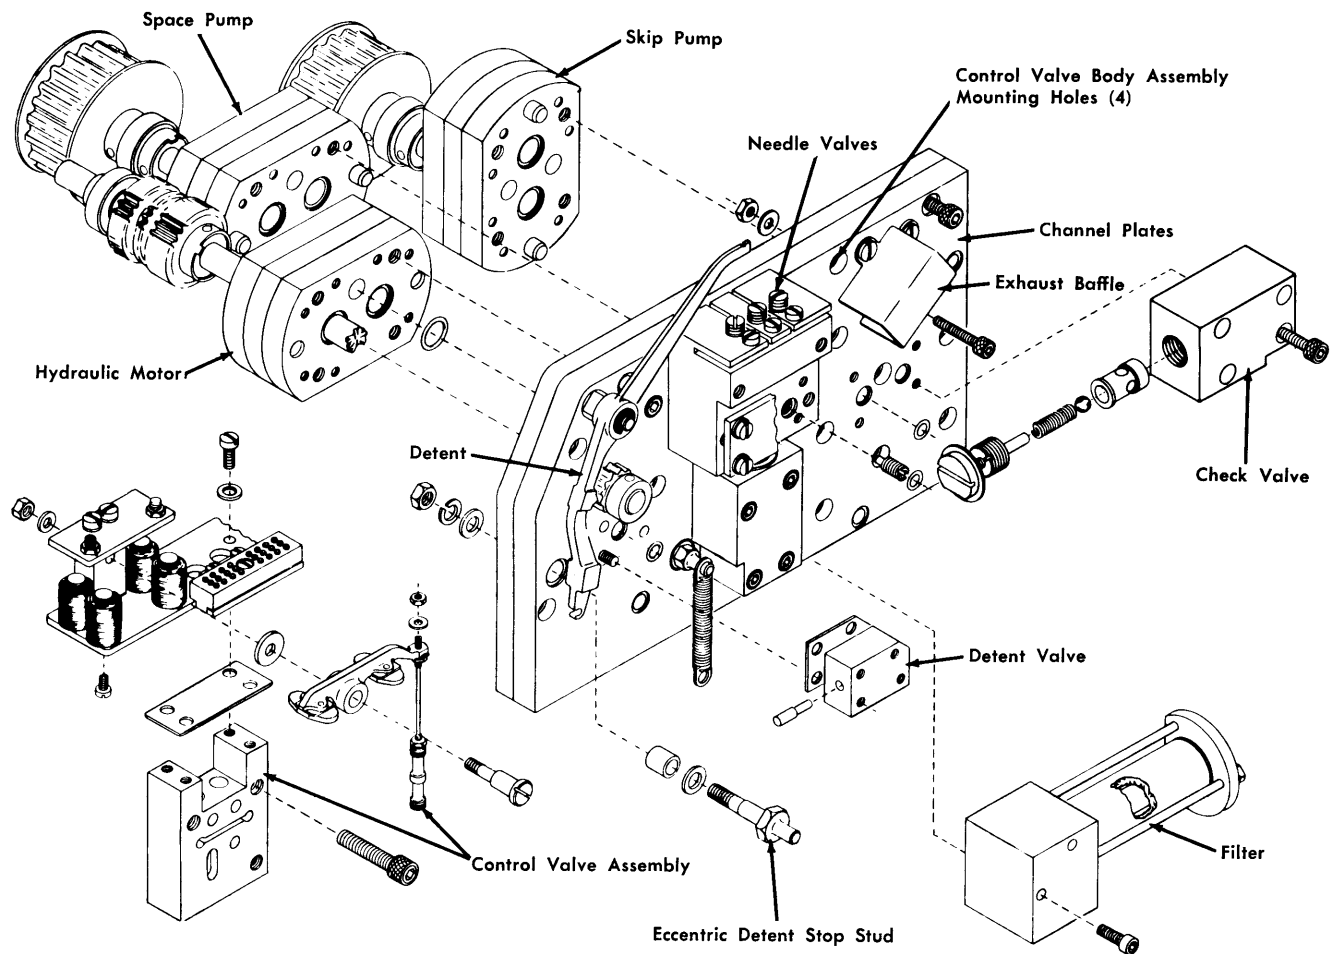

Figure 42. Hydraulic Unit Drive Assembly
- c. Remove the valve-body assembly (Figures 42 and 43). Four screws hold it in position.
3. Remove the two top screws that hold the exhaust baffle (see Figure 42). Gently pivot the baffle to gain access to the valve-block holding screws.
1. The channel-plate assembly (Figure 42) should never be separated from the reservoir mounting plate (part 475101) unless a pump or motor or detent block is replaced.